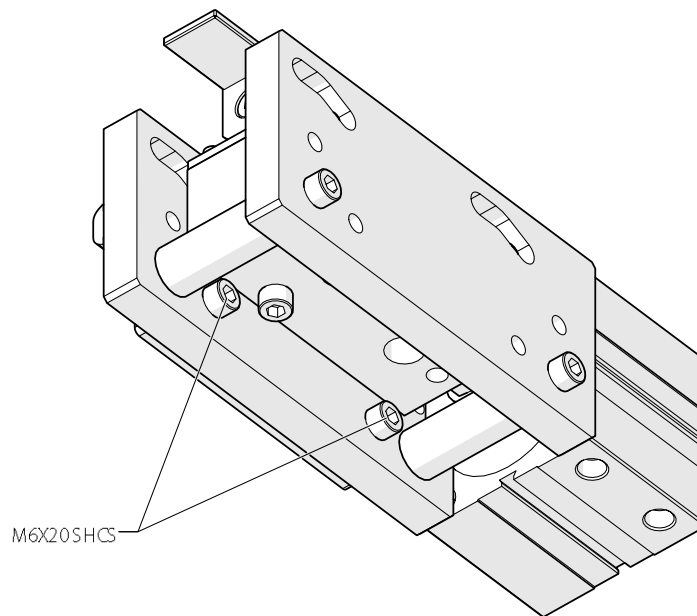

Figure 17: M6X20 SHCS
Step 1: Loosen the M6X20 SHCS as shown in Figure 17 & 18.